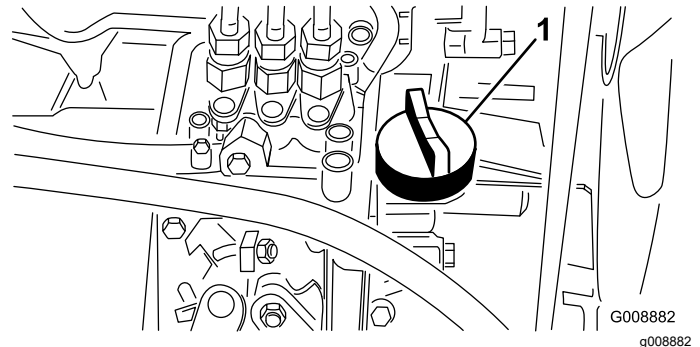

Figure 26
4. If the oil level is low, remove the oil fill cap (Figure 26) and gradually add small quantities of oil, checking the level frequently, until the level reaches the Full mark on the dipstick.